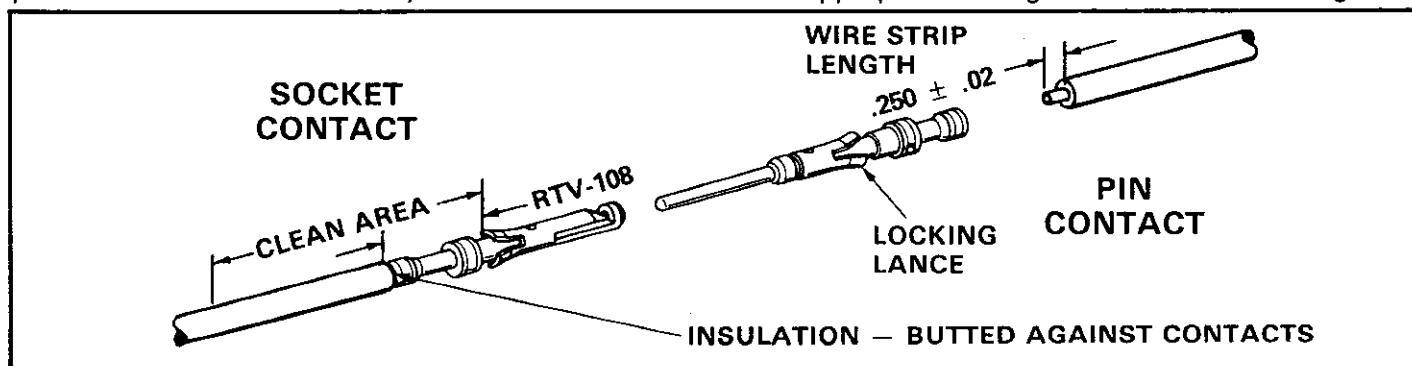

Fig. 2
3. WIRE PREPARATION (Figure 2)
Refer to Figure 2 for proper stripping dimensions, and proceed as follows:
1. Strip the insulation according to the dimensions shown in Figure 2.